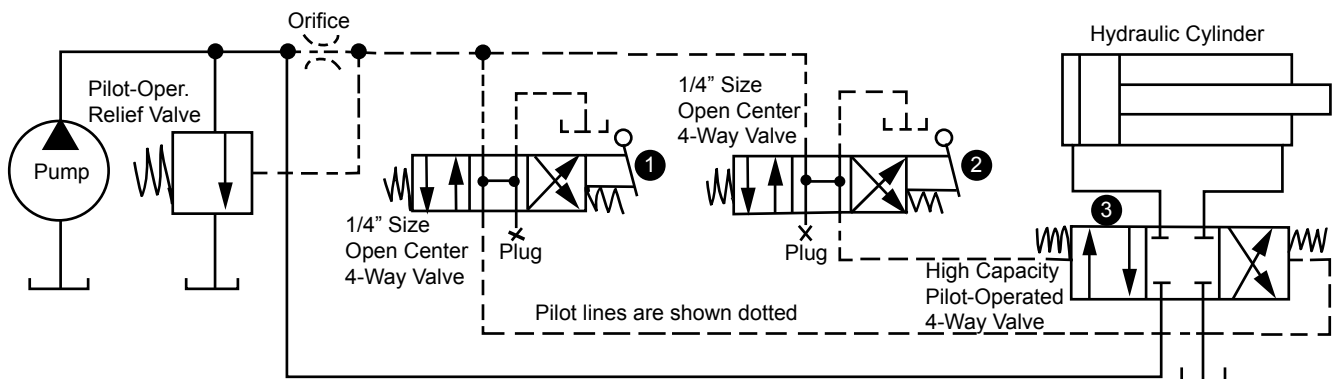

Figure 2. Manually operated 2-hand control for handling high volume to hydraulic cylinder.
**Figure 2.** For high volume circuits, over 30 GPM, this circuit is less fatiguing to the operator. Control valves 1 and 2 may be 1/4" miniature size with open center spools. Valve 3 is the main directional control and may be as large as needed for the circuit.